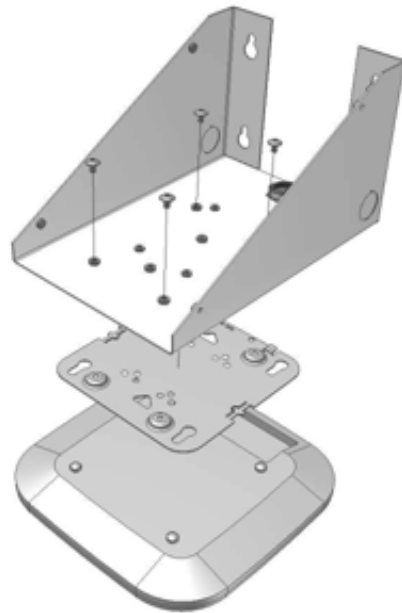

Figure 1
Step 2 – Use the *mounting hole legend* (Figure 3) to determine the mounting hole locations for the type of *access point* chosen. Securely fasten the *access point's mounting bracket* to the mount using either (4) # 8-32 screws (included) or T-bar mount clip that comes with the manufacturers access point (Figure 1).